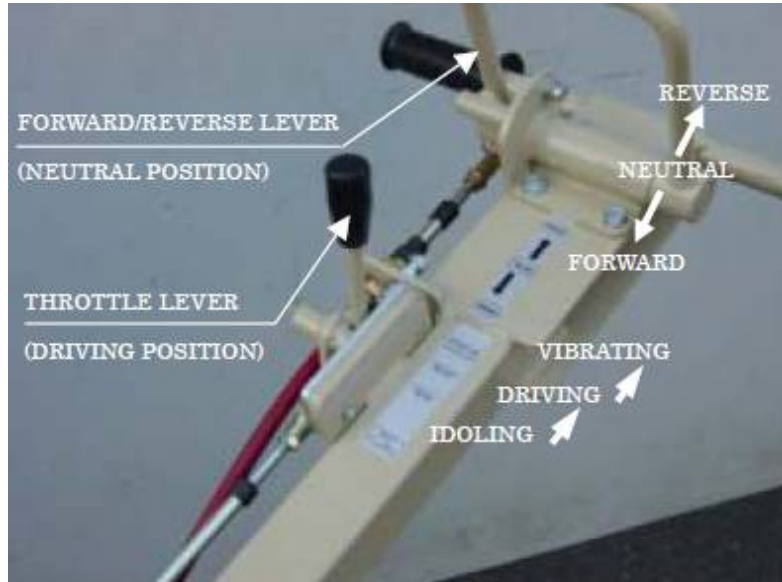

Figure 5-3
1. Ensure propulsion control (Forward/Reverse Lever) (Figure 5-3) is in the "Neutral" position.
2. Place the Throttle Control Lever (Figure 5-3) in the "Driving" position.